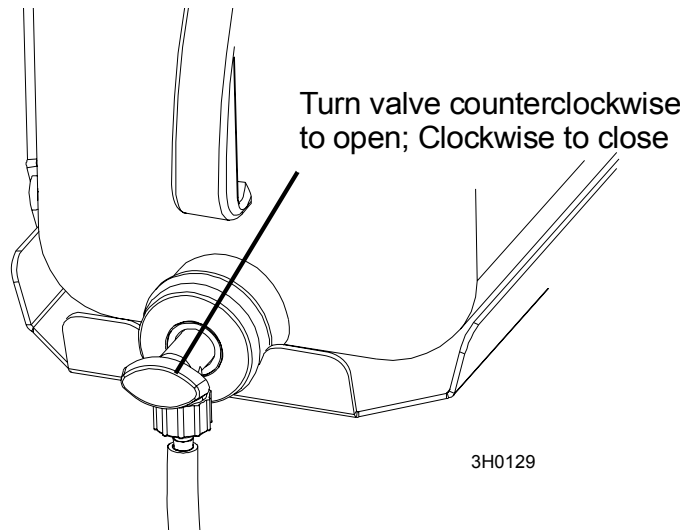

FIG. 2-14
**See Figure 2-14.** The Water Lube System keeps the blade clean. Water flows from a 5-gallon (18.9 liter) bottle through a hose to the blade guide where the blade enters the log. A valve in the